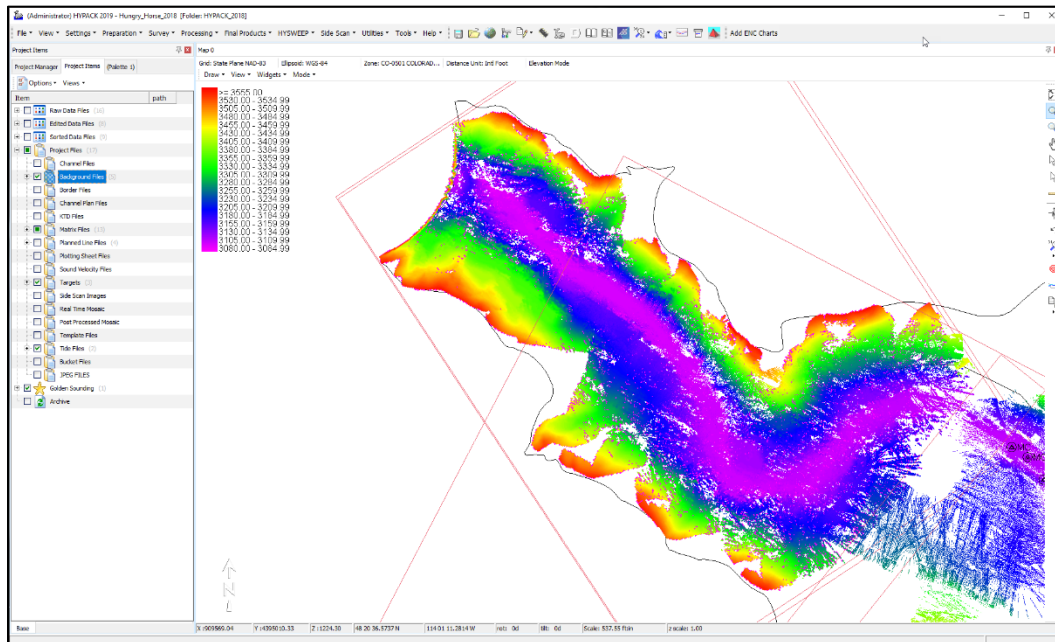
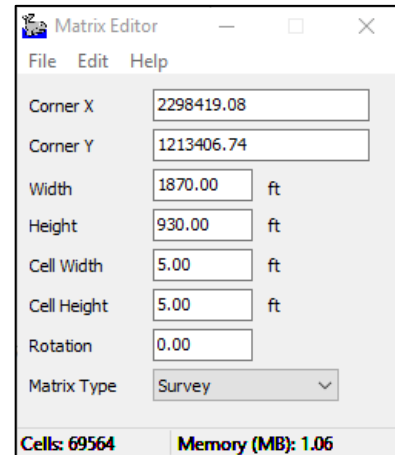
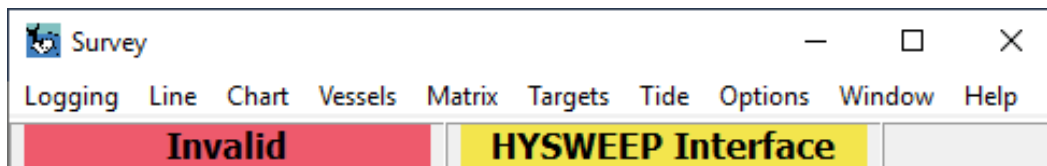
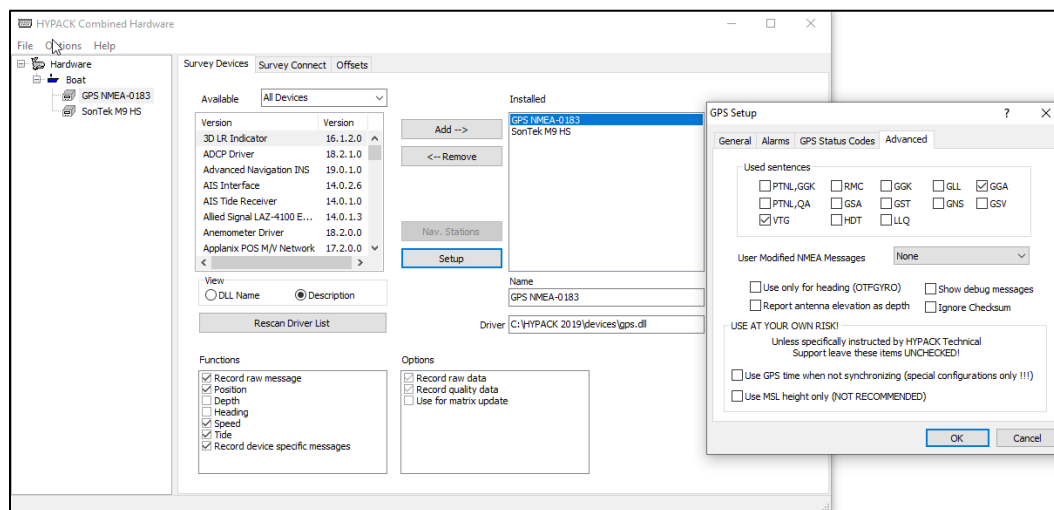

Figure 1.—Example of the HYPACK shell. This is the initial or home screen when using HYPACK.
Figure 3.—Matrix Editor window.
Figure 4.—HYPACK Survey window (and menu bar) accessed from the HYPACK shell.
Figure 5.—HYPACK Combined Hardware window for setting up survey devices.
The Geodetic Parameters window can be accessed via the drop-down menu in the HYPACK shell top menu bar (figure 1). Once the predefined grids and zone are established, ensure "Elevation Mode (Z-axis positive going up)" is checked. Under the RTK Tide Method radio buttons, verify "N from geoid model, K from user value" is also selected. This step will produce elevation values instead of raw or corrected depth values (figure 2). Once the geodetic parameters are set, click "OK" to exit the Geodetic Parameters window and re-enter the HYPACK shell.
In the HYPACK shell under the Project Items tab in the left-hand screen (figure 1), open “Project Files,” right-click on “Background Files,” and then select “Add File.” This is typically a “.shp” file that shows the border of the project area or a georeferenced “.tif” file that shows aerial imagery, but can be a variety of georeferenced image types to provide background information during data collection and processing.
Under the Preparation drop-down menu in the HYPACK shell top menu bar (figure 1), select “Line Editor” under “Editors” to create planned lines in the project area. Planned lines are used for orientation and navigation during data collection and represent the desired pattern for the survey vessel to traverse.
To view the survey coverage in real-time while collecting data, the user must create a matrix. Under the Preparation drop-down menu in the HYPACK shell top menu bar (figure 1), select “Matrix Editor” under “Editors” to create a rectangular box to use as a matrix. The matrix box does not need to conform to project borders, but should cover a larger area than anticipated. At this juncture, it is important to determine matrix cell size. For shallower areas, the cell size should be set to smaller dimensions. For deeper areas, the cell should be set to larger sizes. It may be useful to create multiple matrix areas for the survey depending on anticipated depth (figure 3).
Once matrix files are created, collected bathymetry data will display and update in real-time if it is selected in the HYPACK Survey window (figure 4). Under the Survey drop-down menu in the HYPACK shell top menu bar (figure 1), select “HYPACK Survey” to access this window. Once in the HYPACK Survey window, load the matrix files using the following two steps:
1. Click on “Matrix” from the HYPACK Survey menu bar (figure 4).
Within a project, survey devices are set up in the HYPACK Combined Hardware window (figure 5). Under the Preparation drop-down menu in the HYPACK shell top menu bar (figure 1), select “Hardware Setup” to access this window. Under the Hardware and Boat mobiles on the left side of the HYPACK Combined Hardware window, add two devices—one for the Global Positioning System (GPS) data (gps.dll) and one for the SonTek M9 (SonTek_M9.dll) (figure 5).
1. In the HYPACK Combined Hardware window, verify both the GPS device and the **Survey Devices** tab are selected. In the Functions box in the lower left corner of the Survey Devices tab, ensure everything is checked EXCEPT “Depth” and “Heading,” then click on “Setup.” Under the Advanced tab in the GPS Setup popup window, ensure only the “GGA” and “VTG” used sentences are checked, then click “OK” (figure 5).